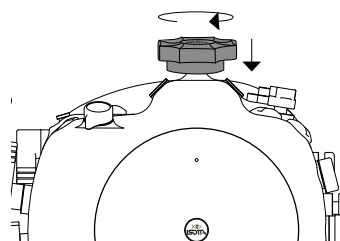

Figure 8
- Turn the knob until it locks and engage the safety by pressing lightly towards the housing; (fig. 8)